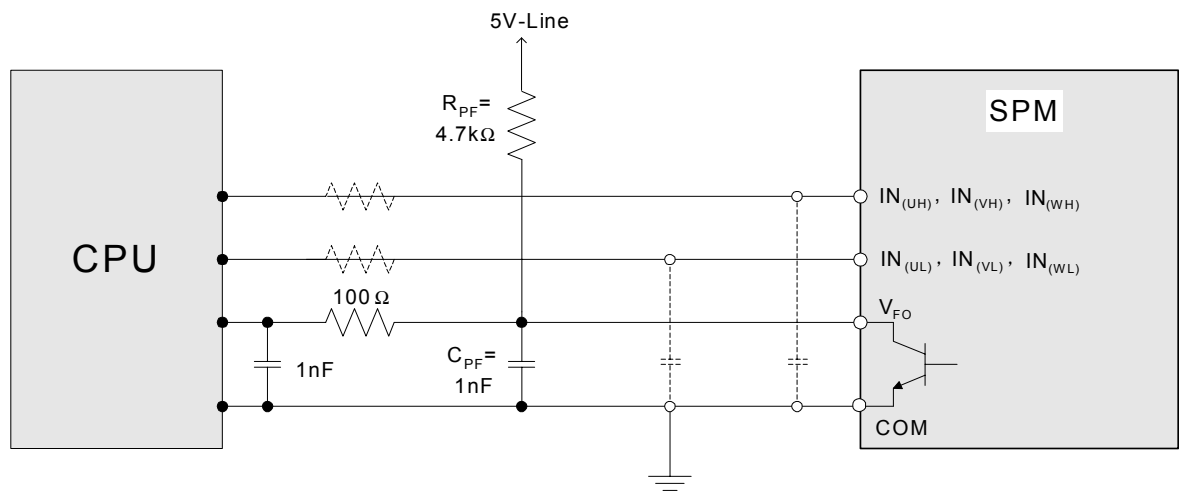

Figure 6.1 Recommended CPU I/O Interface Circuit
Figure 6.1 shows the I/O interface circuit between the CPU and Motion-SPM in Mini-DIP. Because the Motion-SPM
capacitors be placed at both the CPU and Motion-SPM ends of the  $V_{FO}$ , signal line as close as possible to each device. The RC coupling at each input (parts shown dotted in Figure 6.1) might change depending on the PWM control scheme used in the application and the wiring impedance of the application's PCB layout.
attention should be given to the signal voltage drop at the Motion-SPM input terminals to satisfy the turn-on threshold voltage requirement. For instance,  $R = 100\Omega$  and  $C = 1nF$  for the parts shown dotted in Figure 6.1.
- $V_{FO}$  output is an open collector output. This signal line should be pulled up to the positive side of the 5V logic power supply with approximately 4.7kΩ resistance. (reference Figure 6.1)